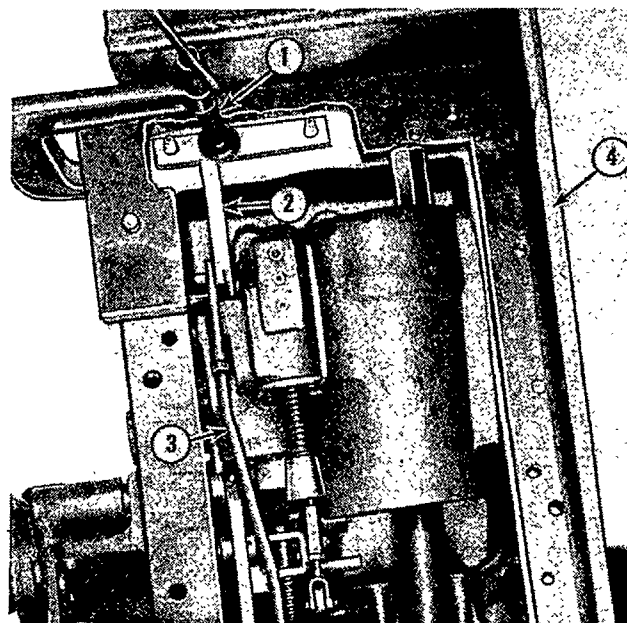
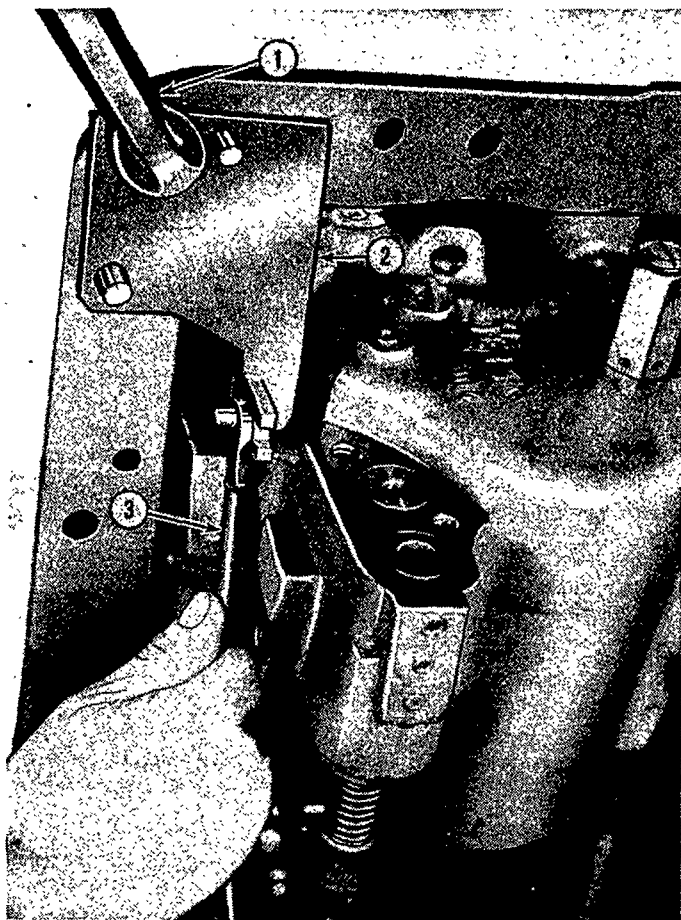

Figure 12
Figure 13
3. Install Tool No. SW 862-A, Figure 12, or Tool No. SW 25, Figure 13, on the lift cover as shown. Clamp the tool to the lift cover to fix rigidly the position of the strut for all remaining adjustments. Install the strut on the tool.